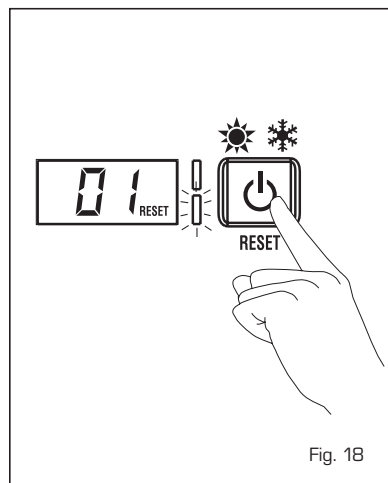

Fig. 18
- LOW WATER PRESSURE ERROR ALARM 02 (fig. 18/a)